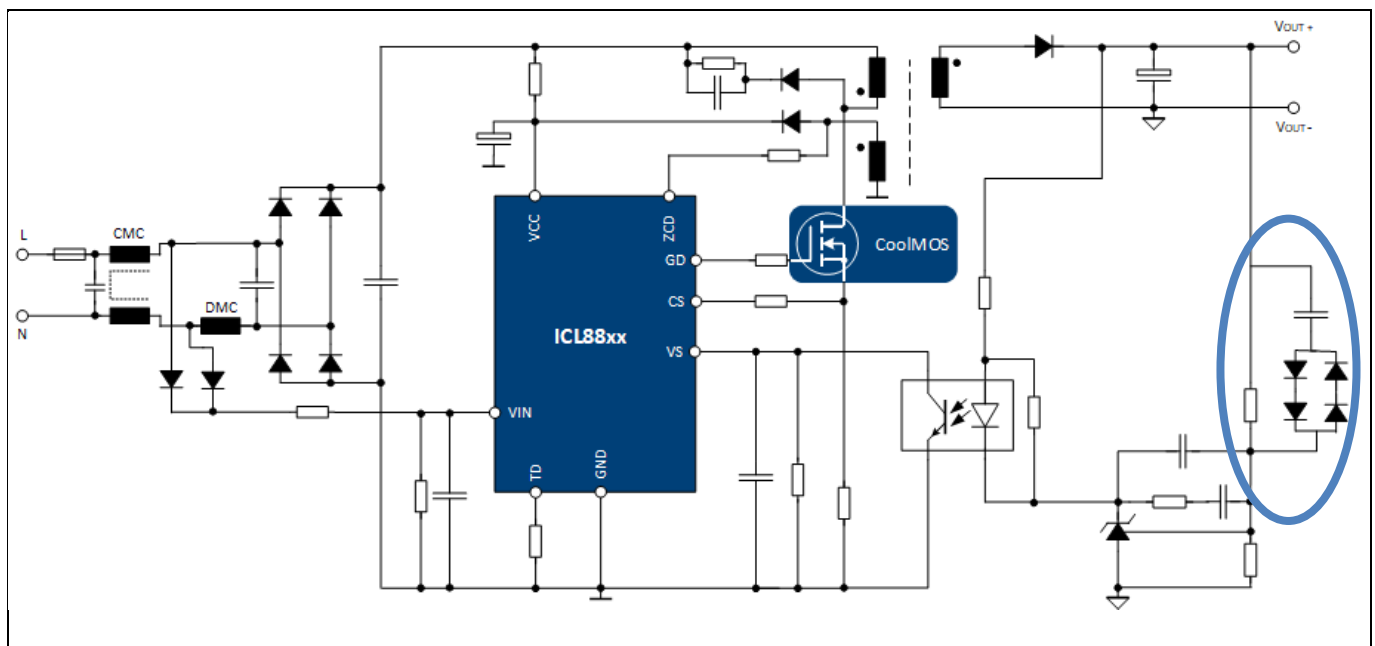

Figure 46 Non-linear feedback circuit for highly dynamic loads without compromising THD and steady-state performance
- Because the feedback loops are optimized to deliver a good THD and PF, the crossover frequency of the loop is very low. This compromises the load-jump behavior and favors soft-dimming behavior. For dynamic load changes an additional D-path in the feedback loop is required. This can usually consist of a resistor and a capacitor in parallel to the upper voltage divider resistor. But non-linear feedback with diodes instead of a resistor is also possible. A circuit example is shown in Figure 46.